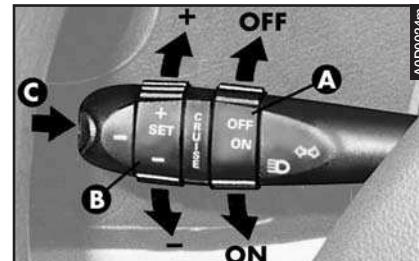

fig. 78
CONTROLS (fig. 78)
Should the device not be working properly or fail to operate, move the switch (A-fig. 78) to the OFF Position and contact Authorized Alfa Romeo Services after checking that the protection fuse is intact. The switch (A-fig. 78) may be left constantly at ON without damaging the device. You are however advised to deactivate the device when not in use, moving the switch (A) to OFF, to avoid accidentally memorising the speed.